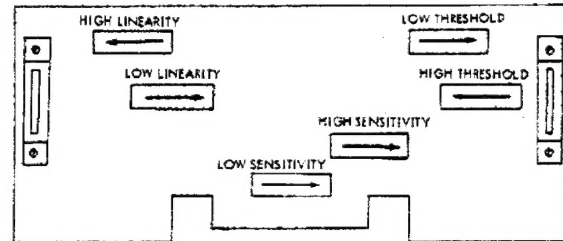

Figure 6. Location of Calibration Controls
1. See Figure 6 for location of controls and direction of rotation. The arrows indicate the direction of rotation toward maximum on each control.